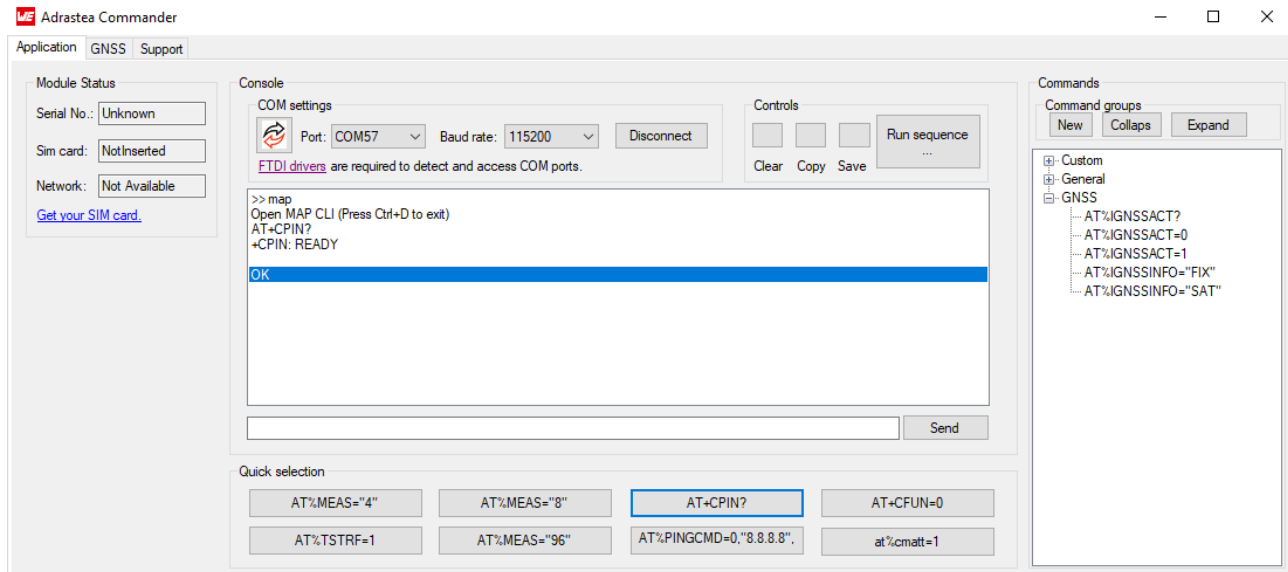

Figure 16: SIM card detected- Adrastea commander
7. Check if the SIMcard is detected. Send command MAP follow by the command AT+CPIN?. See figure 16.